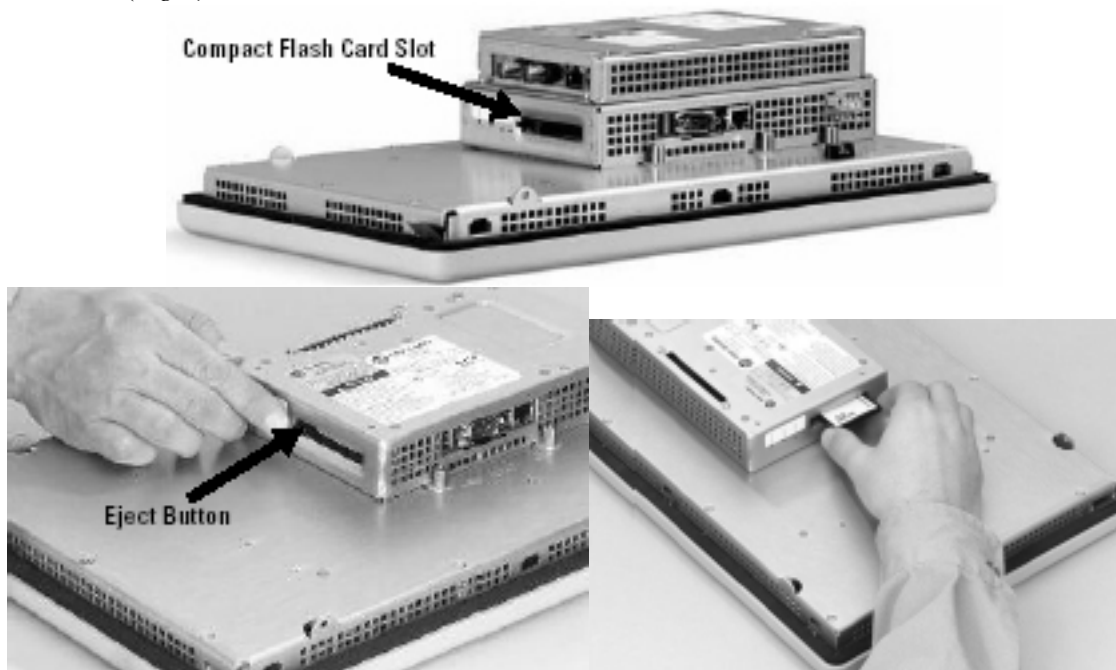

Fig 9
1. Remove the compact flash card from the VersaView if one is installed by pressing the Eject Button (*Fig 9*).